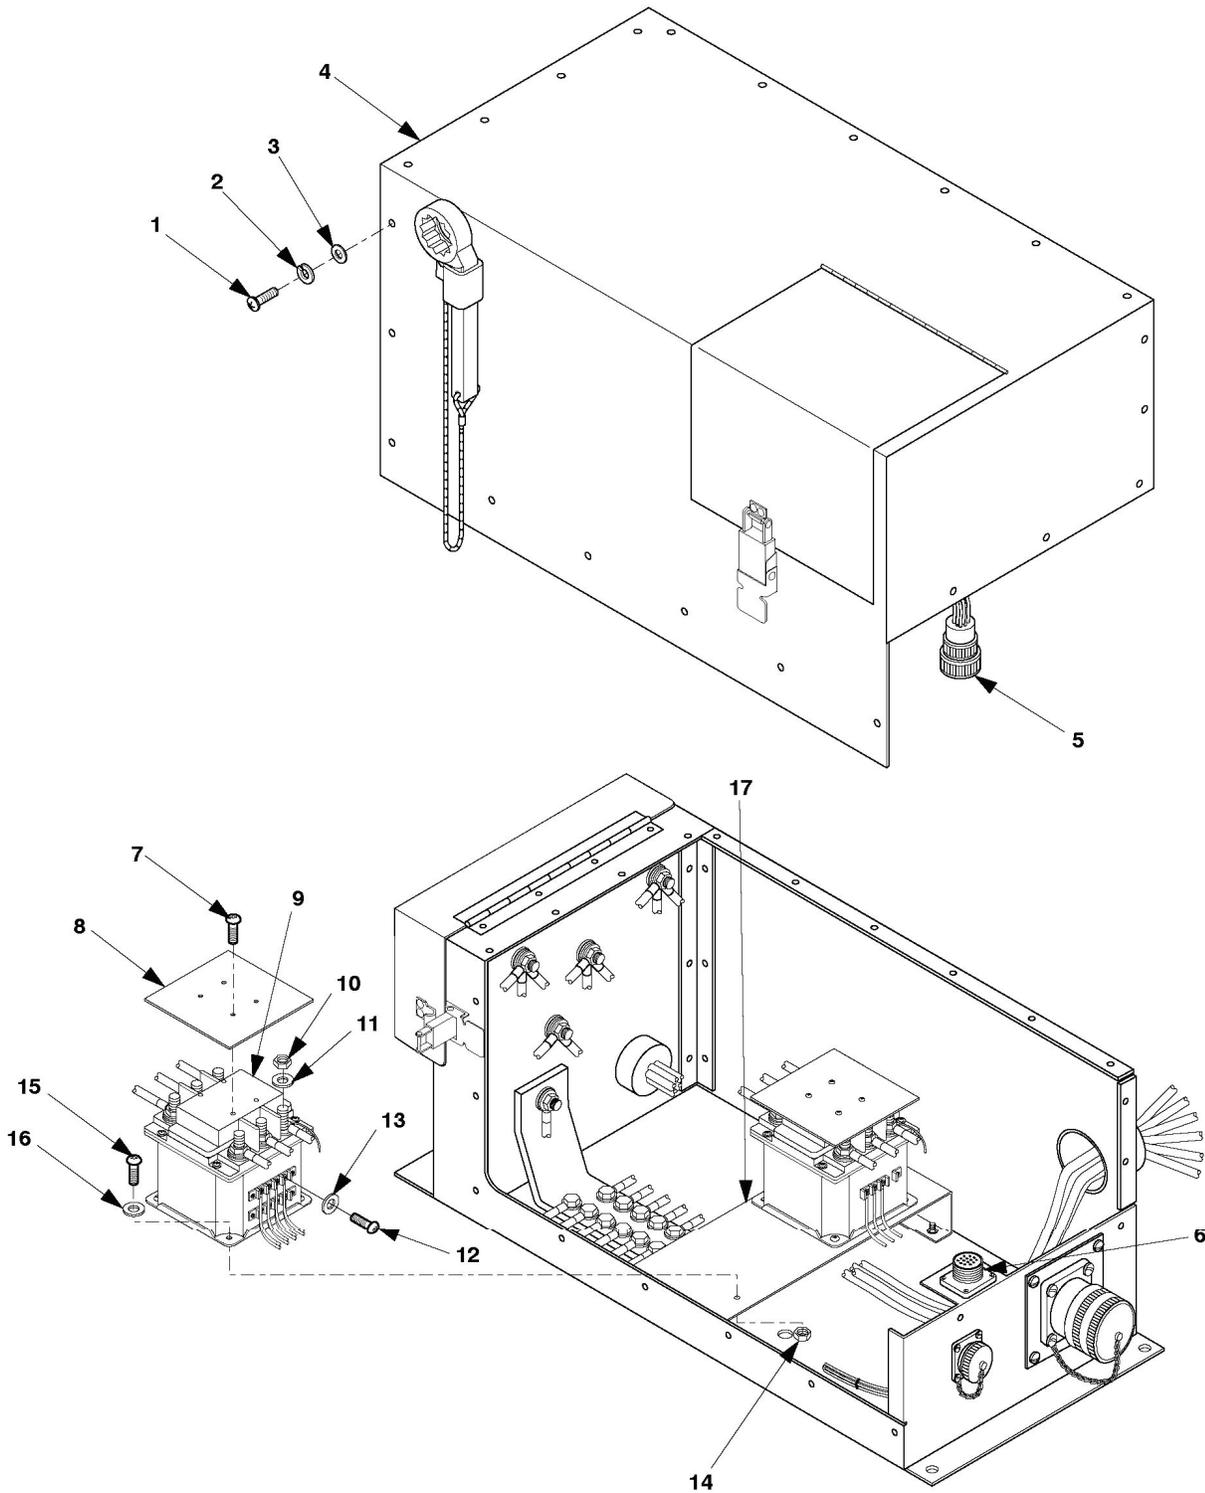

Figure 5-14. Contactor Maintenance (A Model).
1. Remove screws (1, figure 5-14), lock washers (2), and flat washers (3) that secure switch box cover (4) to switch box assembly. Discard lock washers (2).
2. Carefully position switch box cover (4) in front of switch box assembly.
3. Disconnect P3 (5) from J4 (6) and set switch box cover (4) out of the way.
4. Remove screws (7) and one terminal shield (8) from the contactor (9).
5. Remove nuts (10) and flat washers (11). Tag and remove leads from contactor (9).
7. Remove terminal screws (12) and flat washers (13). Tag and remove wiring harnesses from contactor (9).
8. Remove nuts (14), lock washers (18), screws (15), flat washers (16), and contactor (9). Discard lock washers (18).